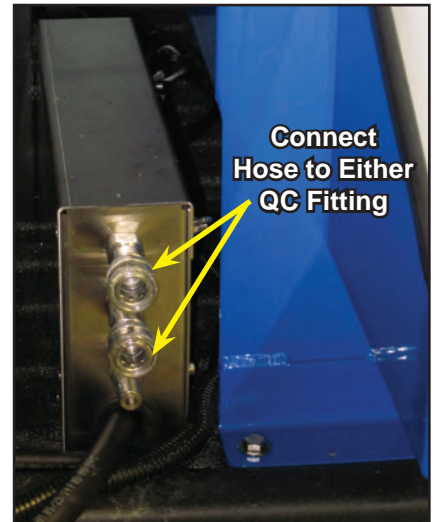

Figure 96. Connect Solution Hose to QC Dash Box
1. Connect the tool's solution hose to one of the 2 quick disconnects (the stainless steel low pressure solution ports) on the QC Dash Box (see Figure 96).
3. With the pump still on, reconnect the solution hose onto the Flex unit (see Figure 96).